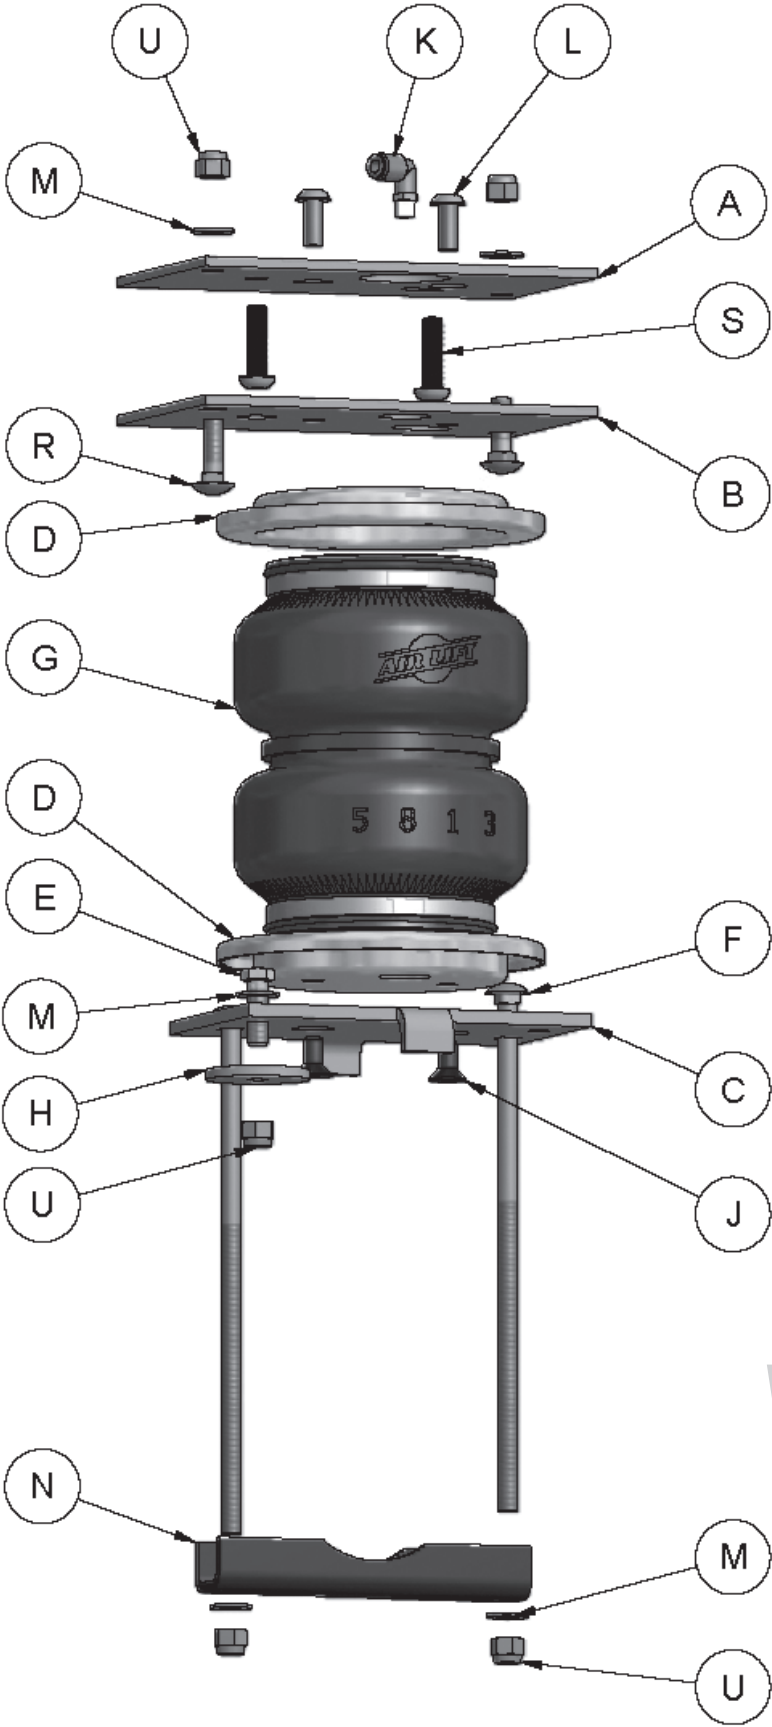

fig. 1
4. Insert the 3/8" carriage bolt (R) through the upper air spring bracket (B) in the hole at the back side only (Figs. 1 & 10).
5. Set both brackets onto the air springs and attach using the 3/8" button head screws (L). Torque no more than 20 lb.-ft.
6. Install the thick 3/8" flat washer (H) onto the lower bracket (C) with 3/8" hex head bolt (E), 3/8" flat washer (M) and 3/8" nyloc nut (U) as shown (Figs. 1 & 11). Tighten securely.
7. Insert the long 3/8" carriage bolts (F) into the square holes in the lower bracket opposite side of the flanges (Figs. 1 & 11).